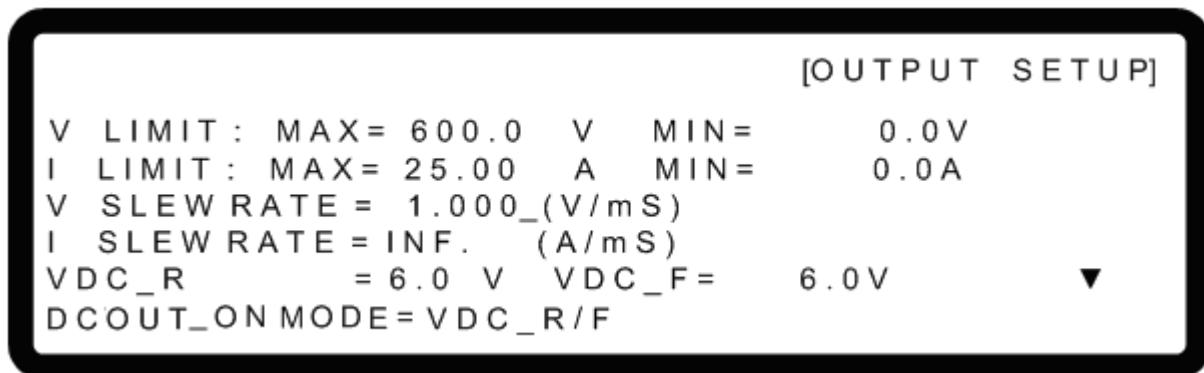

Figure 3-20
1. Use the “”, “” keys to move the cursor to the column to be set as shown in Figure 3-20.